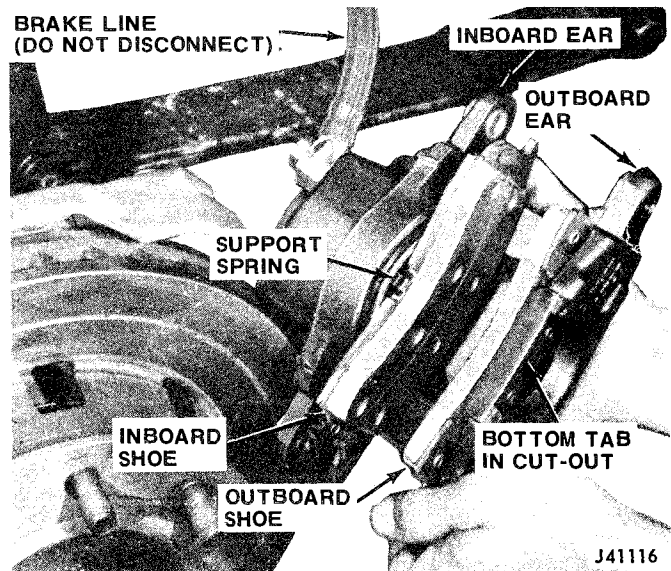

Fig. 2G-33 Caliper Removal
- (9) Remove sleeves and rubber bushings from mounting bolt bores in caliper mounting ears (fig. 2G-27).
- (10) Clean mounting bolts, bolt bores, and bushing grooves in caliper mounting ears with brake cleaning solvent. Replace mounting bolts if corroded or if threads are damaged.